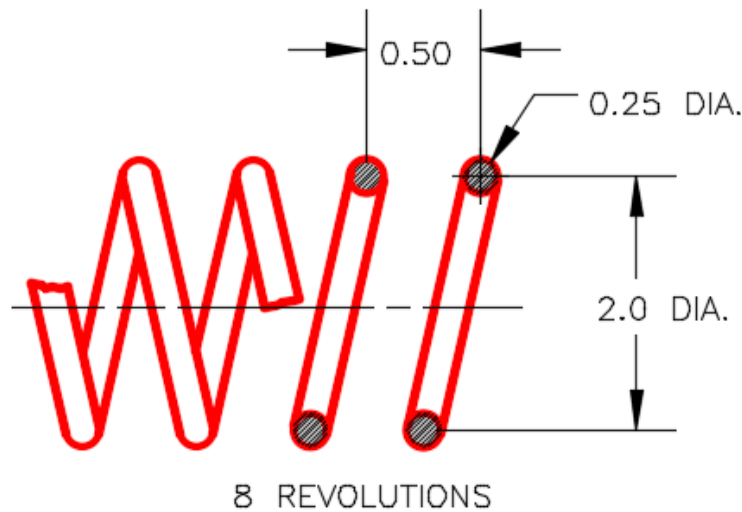

Figure Step 2A
Step 2 Save and name the drawing: AutoCAD 3D Workalong 23-1. (Figure Step 2A and 2B)
Step 4 Enter the HELIX command, as shown below, to draw the coil shown in Figure Step 2A. (Figure Step 4)